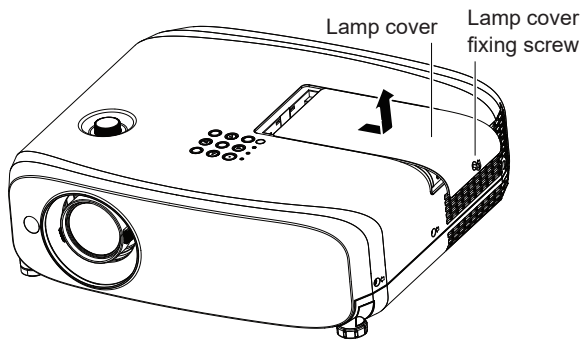

Fig. 1
- Remove the lamp cover. (Fig. 1)**